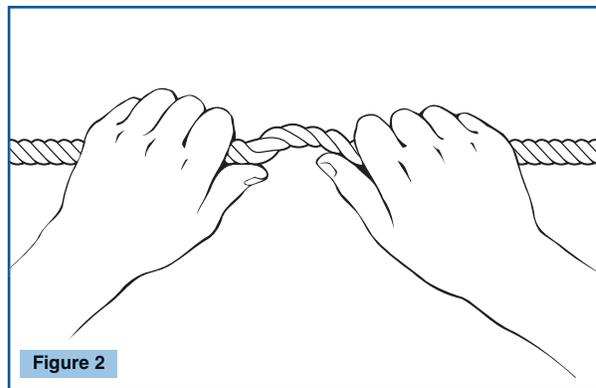

Figure 2
**2. Check for broken strands.** Inspect rope lanyards for broken strands by twisting the rope slightly to undo the braiding. Inspect the entire lanyard in this manner. Lanyards with broken strands must be discarded. (See Fig. 2)